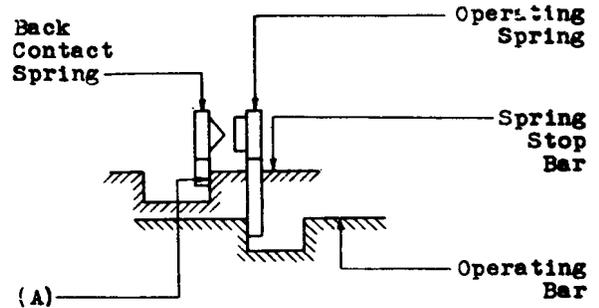

Fig. 6
(c) Fig. 6 (A) - Back Contact Spring Tang With the operating bar in the operated position the pressure of the back contact spring tang against the side of the notch in the spring stop bar further from the cam roller shall be